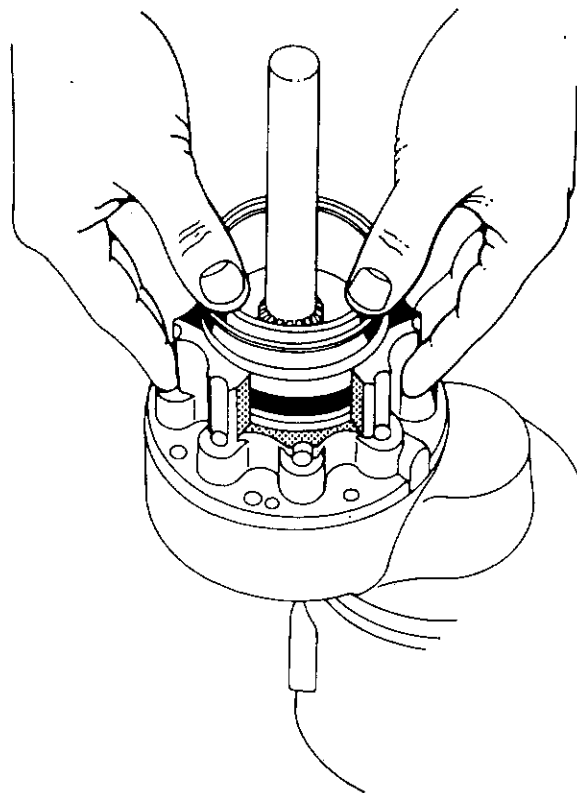

Figure 4.22
11. Install new inner (21) and outer (20) drive housing seals. Install new upper drive housing seal (23).
12. Apply Lithium base grease to both faces of thrust washer (8) and place thrust washer on drive shaft assembly.
13. Position the drive housing (24) according to scribe marks and gear case pin (22), align drive shaft gear teeth with rotor pinion and push drive shaft into gear case bearing (7).
14. Install the nine drive housing screws (26) and lockwashers (25) and torque to 97 - 109 in. lbs. (11.1 to 12.3 N·m).
15. Lubricate the splines and plain end of drive shaft assembly (28) with low temperature Lubriplate grease.
16. Install a new actuator piston seal (18) on actuator (19). After seal is in place, install a new piston actuator ring (17) over piston seal. Apply a coat of low temperature Lubriplate grease to actuator ring.
17. With the actuator ring end facing the bearing retainer (14), insert the actuator piston into the drive housing (24) as far as possible. See Figure 4.22.